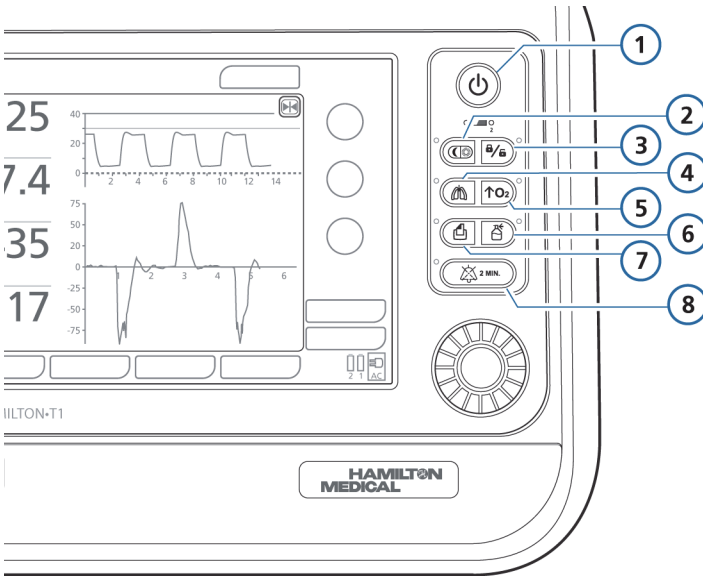

Figure 9-1. Special function keys
- ▶ Press and release the **Manual breath** key (Figure 9-1) during exhalation.